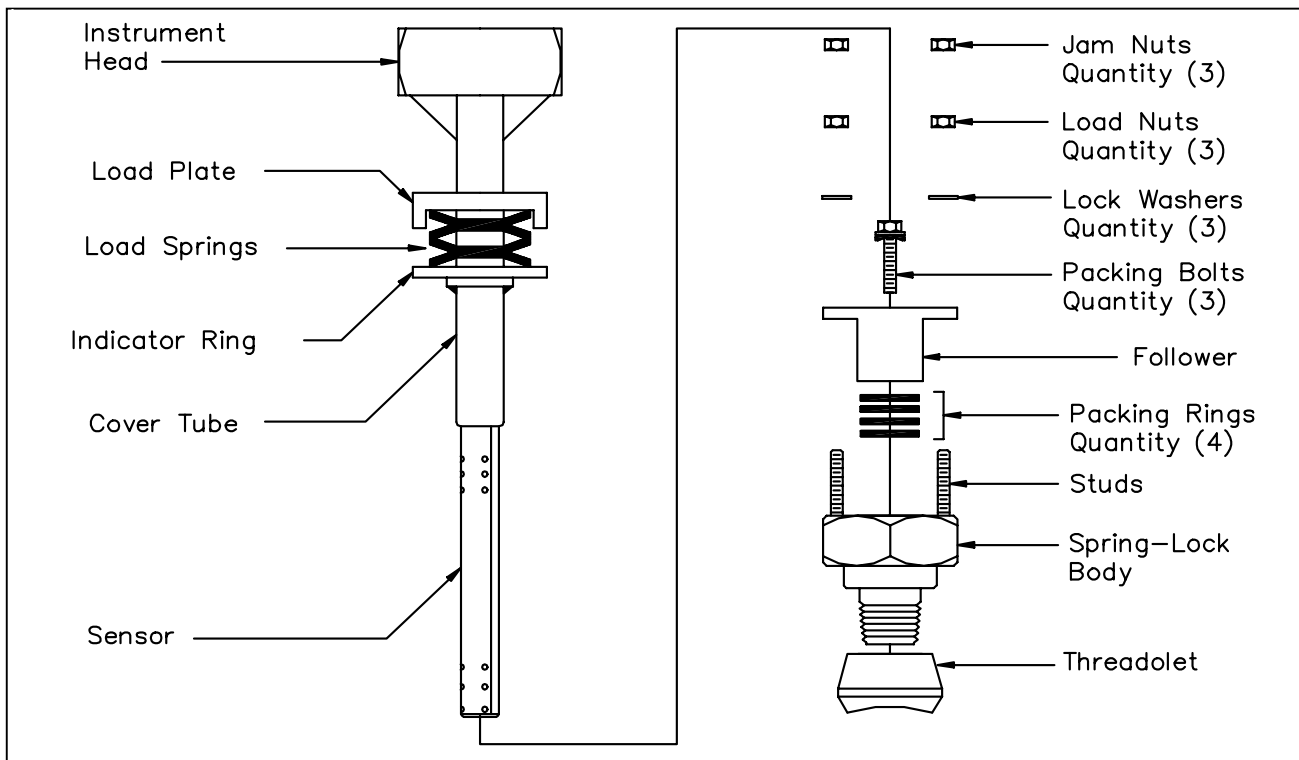

Figure 2. Verabar Model V150
- With the follower and packing rings already in place, loosely insert the sensor into the Spring-Lock body (see Figure 2). Thread the Spring-Lock body into the threadolet (hand tight), then insert the complete assembly into the pipe. This will assure proper alignment of the threadolet to the hole already drilled in the pipe.